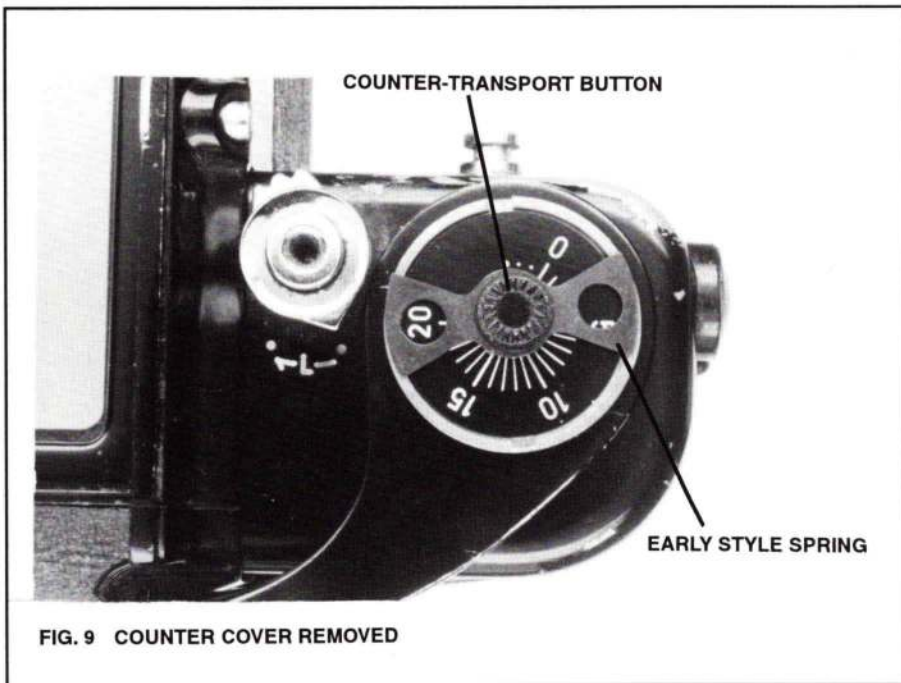

FIG. 9 COUNTER COVER REMOVED
**Note:** The counter-transport button and spring are loose, Fig. 9. Early cameras use a flat spring; the counter-transport button fits in the hole at the center of the spring, Fig. 9. Later cameras use a coil spring under the counter-transport button. The coils of smaller diameter go down—the bottom (smallest) coil fits over the counter-dial screw. There may also be a small washer fitting around the counter shaft.